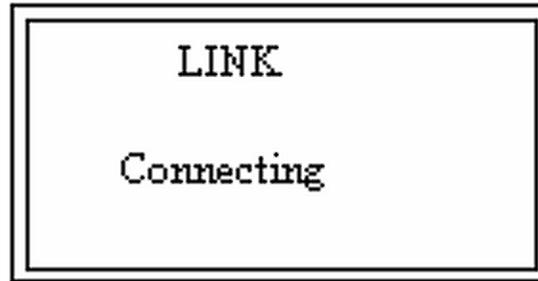

Figure 2-25 Link Screen
8. Press **Enter** and the *Link* screen appears (Figure 2-25) for one to three seconds and then the *Home* screen reappears.